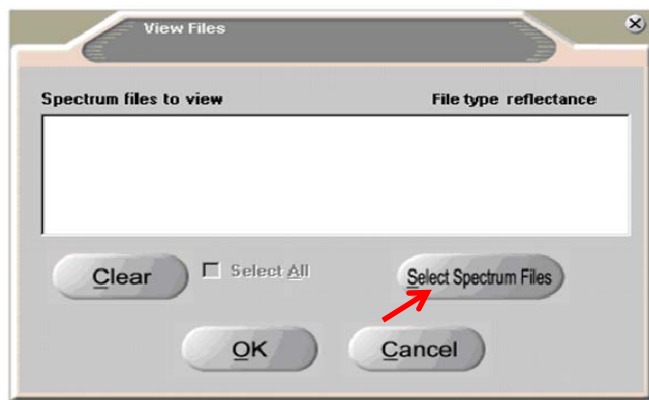

Figure 3-43: Dialog box to view several spectra at once
Step 2 Click on the *Select Spectrum Files* button to specify files to display (Figure 3-43).